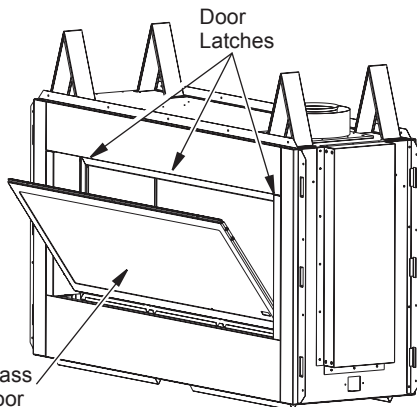

Figure 8 - Removing/Replace Glass Door
4. Tilt open glass door 45° from the top of firebox and lift up to release door from retaining channel (see Figure 8).
1. Position door frame in front of firebox opening tilting top of door about 45° toward you. Insert bottom flange of glass door into the retaining channel at the bottom of firebox (see Figure 8). Make sure door is center with firebox opening.